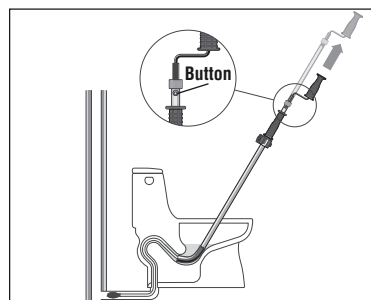

Figure 7 – Extending the Cable
9. To extend cable beyond the initial 3' (.9 m), press button (Figure 7). Pull crank handle/drill up until button locks into second hole.